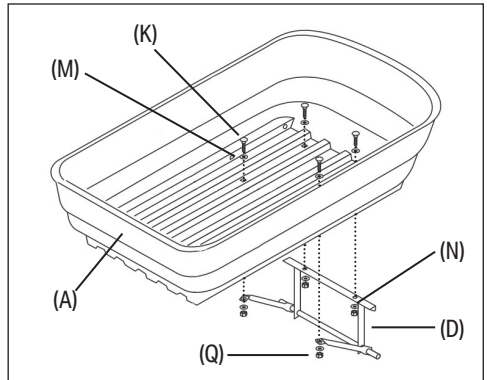

Fig. 1
1. Attach the rear axle assembly and struts to the hopper - Fig. 1:
- a. Position the rear axle assembly (D) beneath the rounded end of the hopper (A) and align the holes. The flat faces of the axle assembly brackets should face outwards and the two moveable struts should bend slightly inwards.
- b. Pass four M8 x 20mm round-headed bolts (K) each through an M10 washer (M) and down through the hopper and axle assembly.
- c. Secure each bolt in place with an M8 washer (N) and an M8 nylon-insert lock nut (Q).